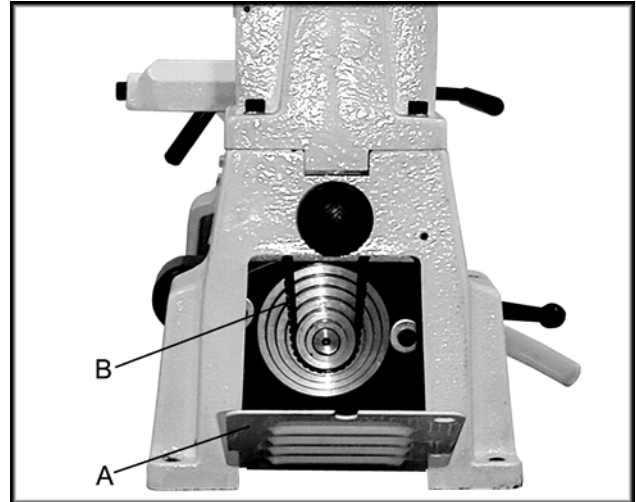
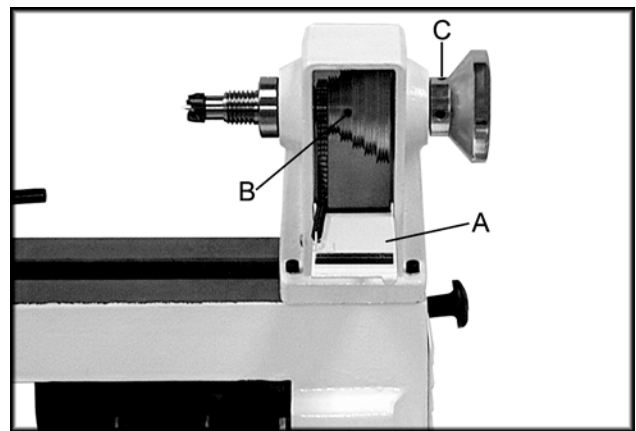

Fig. 6
Fig. 7
2. Open the access doors at the left side of the base (A, Fig. 6), and at the back side of the headstock (A, Fig. 7).
4. Move the belt (B, Fig. 6) to the desired pulley groove according to the speed chart found on the inside of the headstock access door. Be sure the belt is aligned with spindle pulley and motor pulley.
6. Open the access doors at the left side of the base (A, Fig. 6), and at the back side of the headstock (A, Fig. 7).
3. Loosen the set screw (B, Fig. 7) on spindle pulley (upper).
4. Loosen two set screws in handwheel (C, Fig. 7). Unscrew the handwheel while holding onto the spindle.